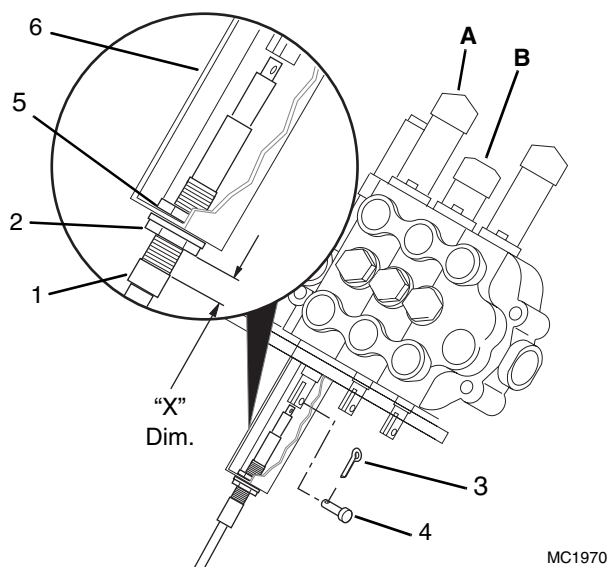

Figure 7-66 Control Cable Installation
2. Adjust the jam nuts (Fig. 7-66, 2 & 5) as required to obtain the same visual thread length ("X" Dimension), from the base of the cable end housing (1) to the bottom of the jam nut (2), as was recorded during valve removal.
- Loader Arm Spool Cable (Fig. 7-66, A):
- Attachment Tilt Spool Cable (Fig. 7-66, B):
3. Tighten the jam nuts (Fig. 7-66, 2 & 5) securely.
4. Install the clevis pin (Fig. 7-66, 4) through each spool and cable end and secure with a cotter pin (3).